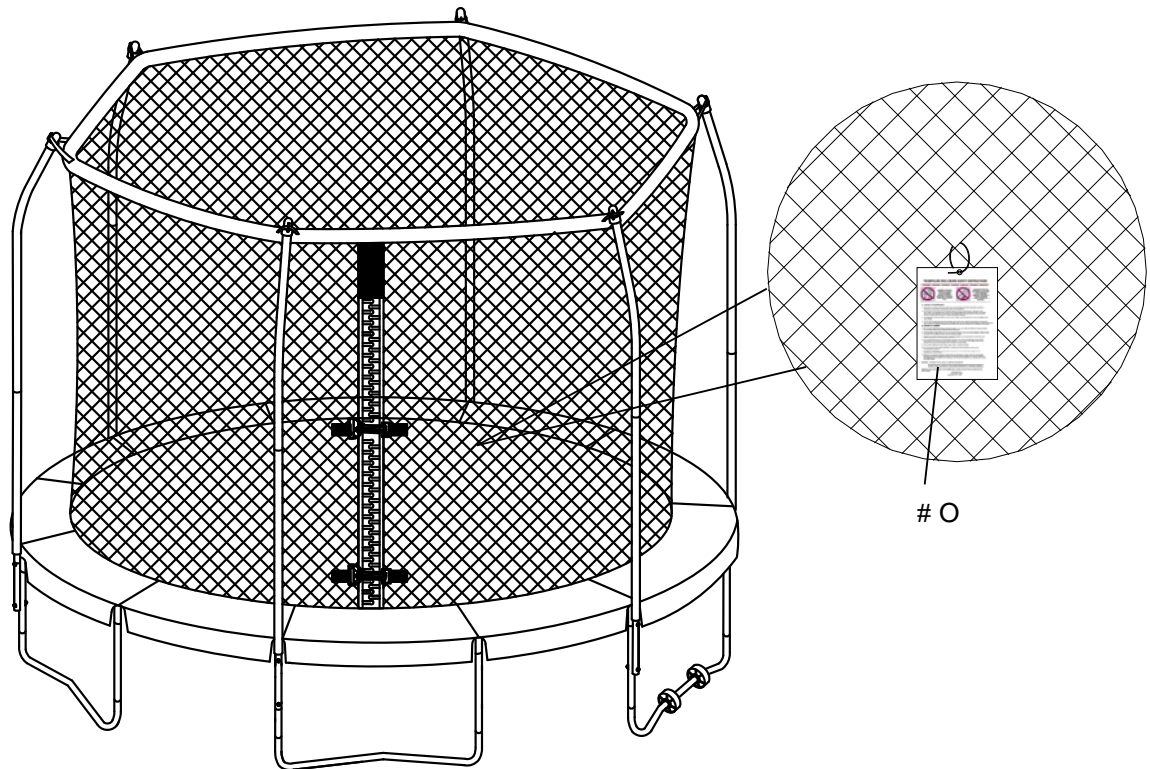

FIGURE 23
- G. Now, use the included plastic tie, attach ENCLOSURE SAFETY INSTRUCTION PLACARD (# O) to the netting near the door as shown in FIGURE 23.